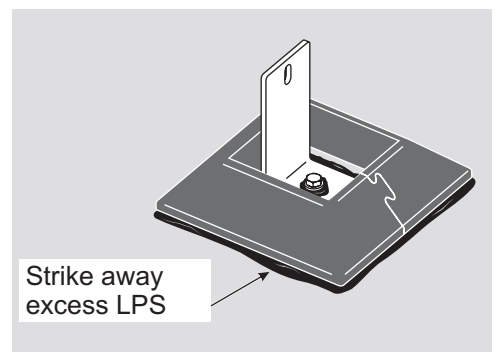

Figure 2-5: Strike/Blend LPS Sealant around perimeter
- G. Strike away/blend the LPS bead around the perimeter of the Pocket creating a uniform seal all the way around between the Pocket and roof substrate. (See Figure 2-5)